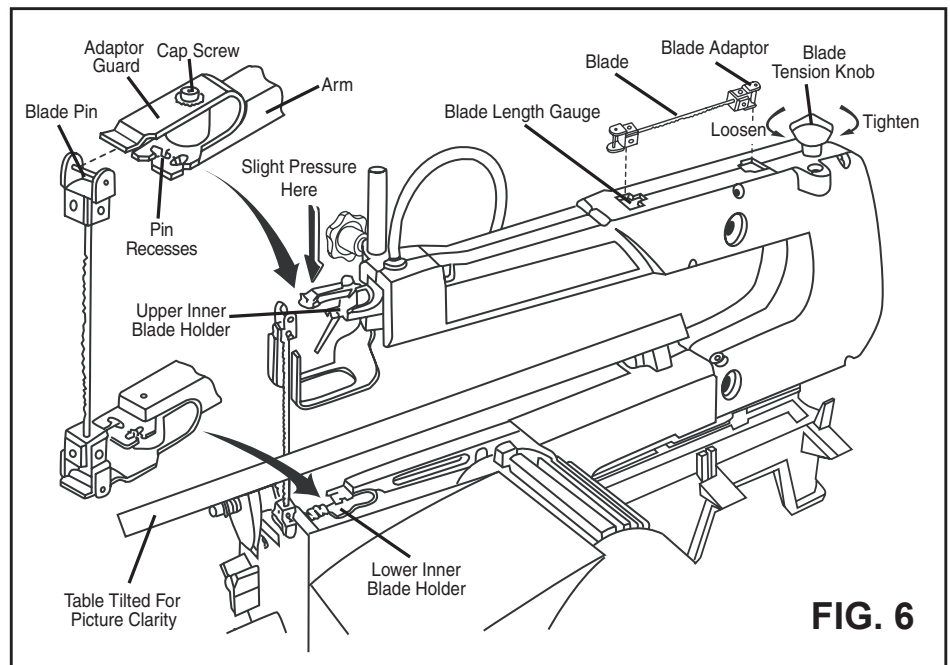

FIG. 6
Mounting the blade onto the saw. Figure 6.
- If the table insert is left in place, simply lead one end of the saw blade through the hole in the table insert and attach the saw blade pins into the notches on the lower blade holder support. See Figure 6.